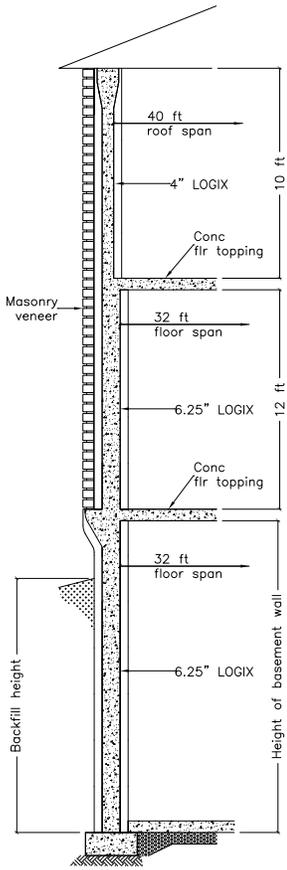

Fig 2A
Tables 2A to 2D shall be used in conjunction with corresponding Figures 2A to 2D, the notes listed below, and the building limitations noted in the "Reinforcement Tables" section, which form the basis of these tables.
2. Table 2A shall be read in conjunction with Fig 2A, and "NOTES FOR TABLES 2A TO 2D - LOGIX BELOW-GRADE TABLES."